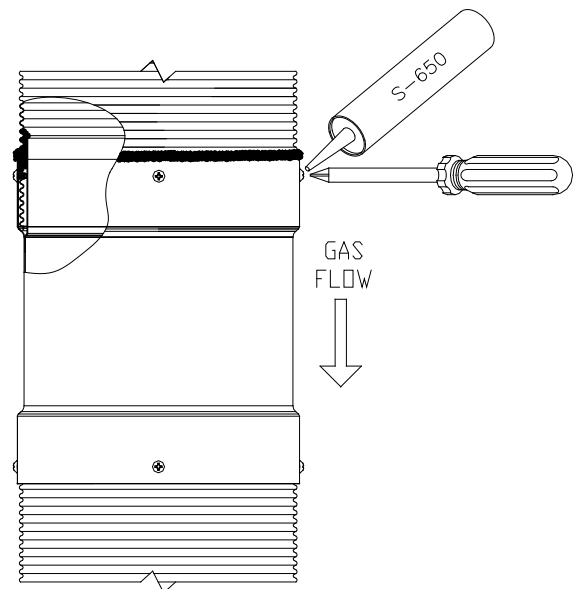

Figure 24 - SecureSeal Flex screws
- 3.5. Add the red S-650 caulking over the screws (**Figure 24**).